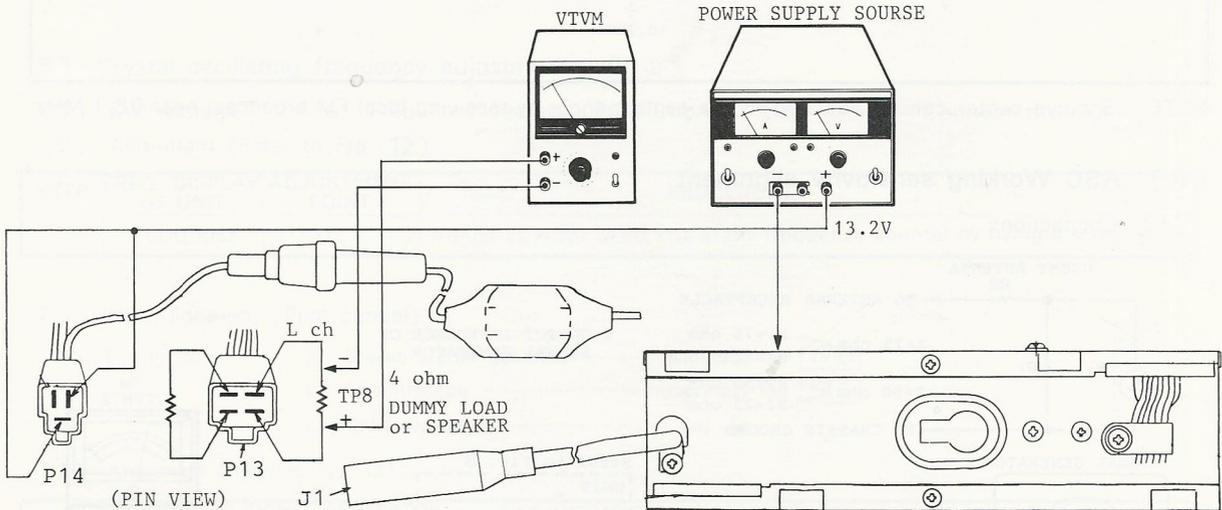

Fig. 8 (C33190231)
- Connections: Refer to Fig. 8.